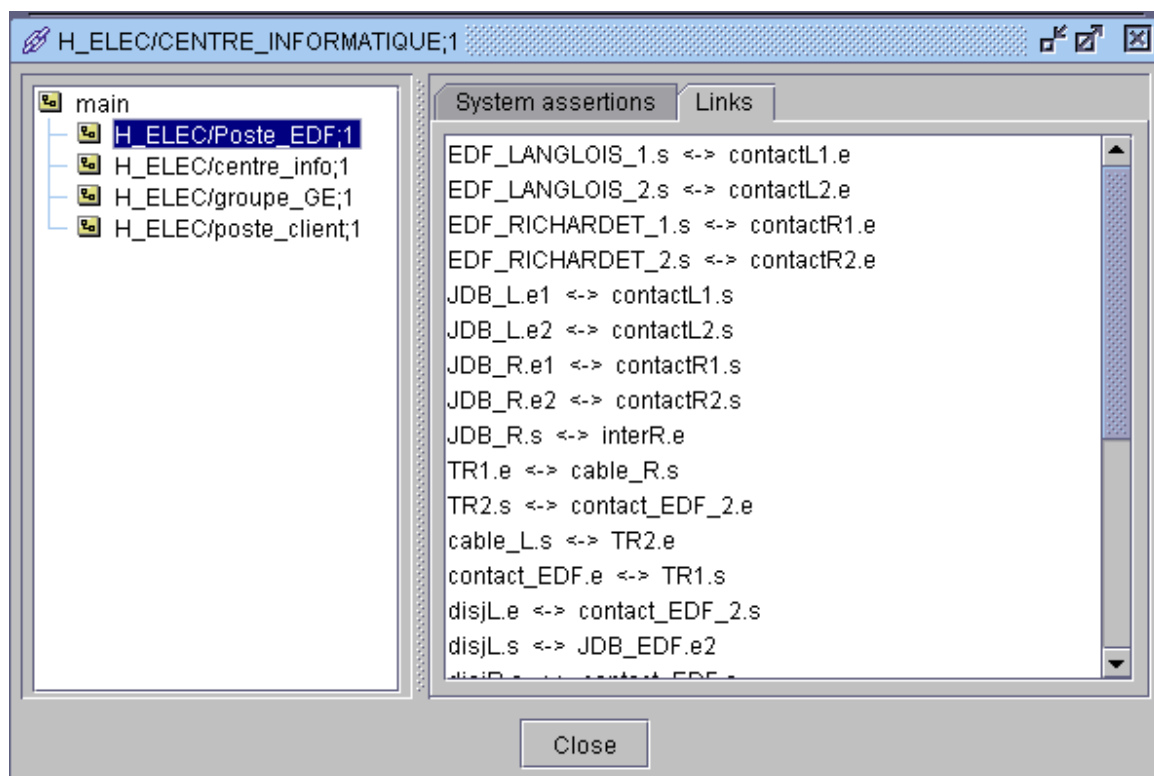

Figure 156 : System assertions – Links tab
- Click on the **Links** tab; the following window (Figure 156) displays an exhaustive list of all the links which have a graphical representation in a given hierarchical level.